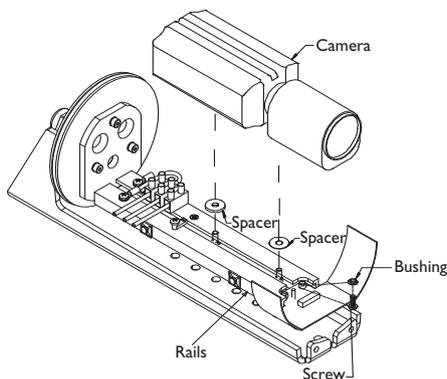

FIGURE 6 Mounting a Zoom Lens Camera
**Zoom Lens Cameras:** Position the camera/lens so that the lens is positioned over the heater but not past it. The camera/lens combination will determine the screws and spacers that will be needed. Secure the camera and lens to the rail assembly with 1/4-20 BHC screws, nylon bushings, and plastic spacers. Place the nylon bushings over the screws and slide both between the rails through the front cut-out section. Slide the spacer over the screw so it is positioned in-between the rails and the camera. There are four large spacers (3.2mm) and four small spacers (0.4mm) provided. See FIGURE 6.